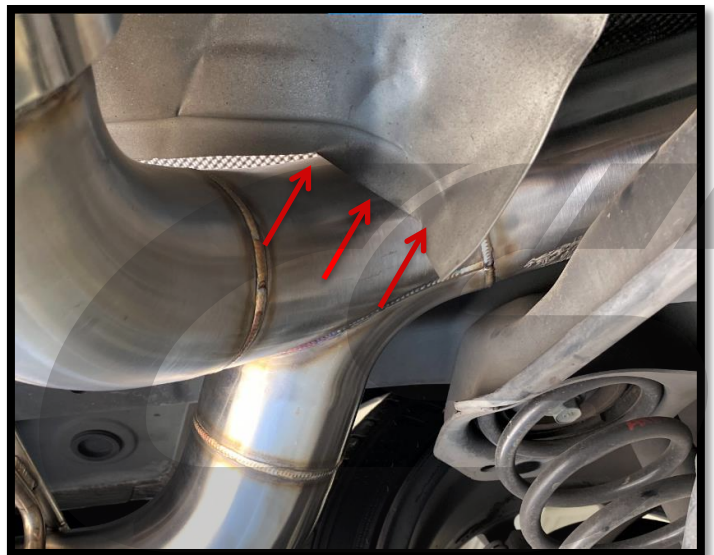

Figure 6g
- h) Inspect the OEM heat shielding located near the "Y" section of the driver side tip section. It will likely need to be bent slightly to offer proper clearance for the large pipe. 1/2" or so of gap is plenty. Shown completed in **Figure 6g**.